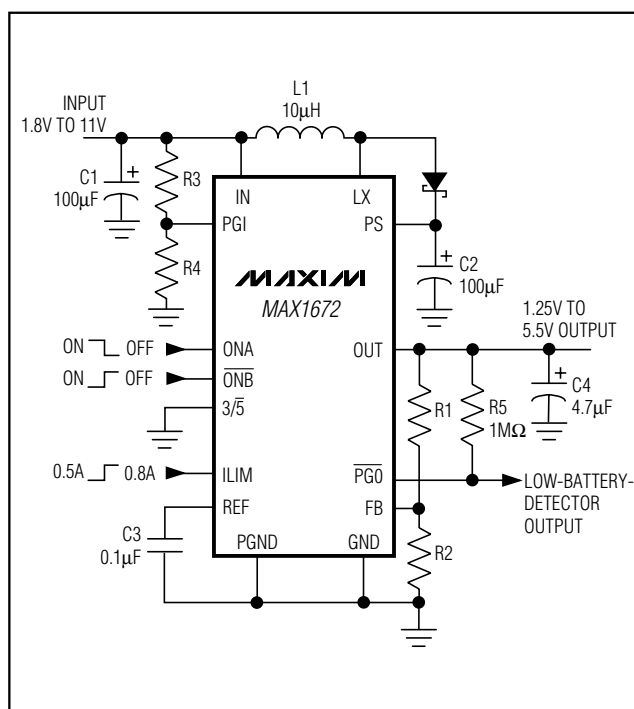

Figure 2. Adjustable Output Voltage Configuration
For fixed output voltages of 3.3V or 5V, connect $3/\bar{5}$ to PS or GND and connect FB to GND (Table 2). Alternatively, adjust the output voltage from 1.25V to 5.5V by connecting two resistors, R1 and R2 (Figure 2), which form a voltage divider between OUT and FB. Choose resistor values as follows:
The MAX1672 contains a comparator for low-battery detection. If the voltage at PGI falls below V_{REF} (typically 1.25V), the open-drain comparator output (PGO) goes high. Hysteresis is typically 30mV. Set the low-battery detector's threshold with resistors R3 and R4 (Figure 2) using the following equation:
- Keep the IC's GND pin and the ground leads of C1 and C2 (Figure 2) less than 0.2in. (5mm) apart.